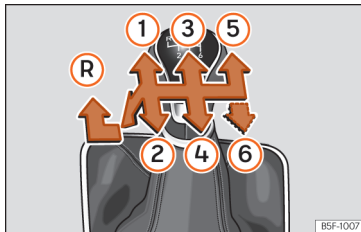

Fig. 140 Gear shift pattern of a 5 or 6-speed manual gearbox.
The position of the gears is indicated on the gearbox lever »» Fig. 140.
- With the gearbox lever in neutral, push it downwards, move it to the left as far as it will go and then forwards to select reverse »» Fig. 140 .